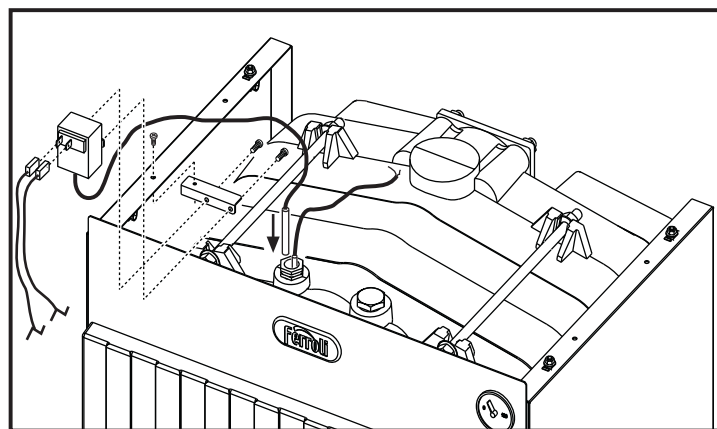

fig. 10
- Fix the bracket and the thermostat as indicated in the fig. 10.